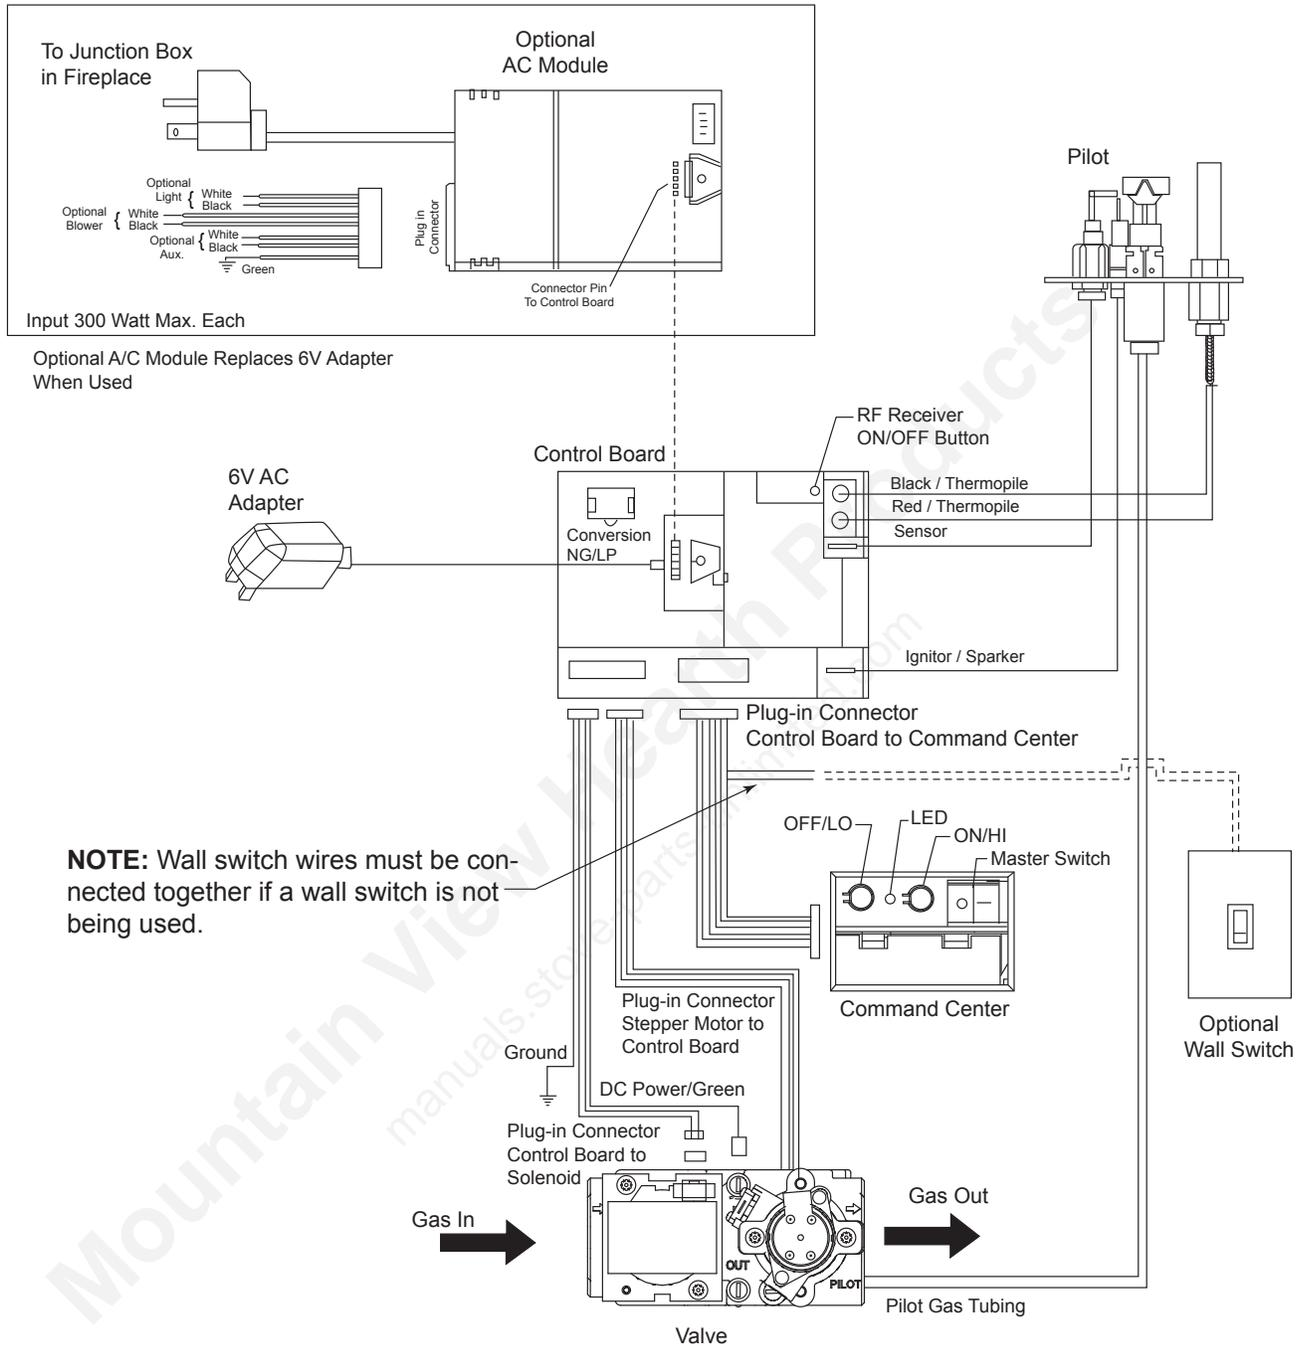

Figure 54 - Signature Command Wiring Diagram
The wall switch wire connection is located off the 2 ft. wire harness from the control box to the command center. *Figure 54*. The connection is labeled “Wall Switch”. Unplug the male and female connectors and connect the two (2) low voltage wires provided. Run wire to desired location on wall. Up to 50 ft. of 18 ga. wire may be used if necessary. Attach wires to wall switch. Mount the wall switch in to junction box and screw on cover.